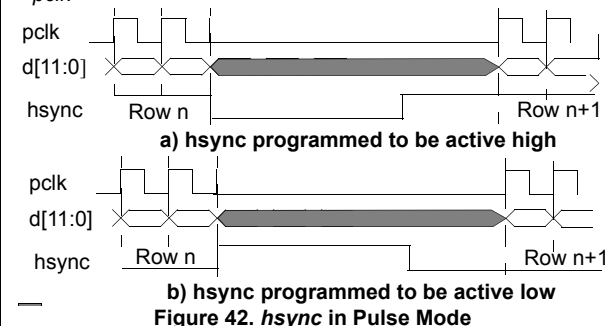

Figure 42. *hsync* in Pulse Mode
- Pulse mode should be used when the pixel clock, *pclk*, is programmed to operate in *data ready mode*. In pulse mode the *hsync* output pin will produce a pulse at the end of each row. The width of the pulse will be a minimum of four *pclk* cycles and its polarity can be programmed as shown in Figure 42. The *hsync* level is always synchronized to the active edge of *pclk*.